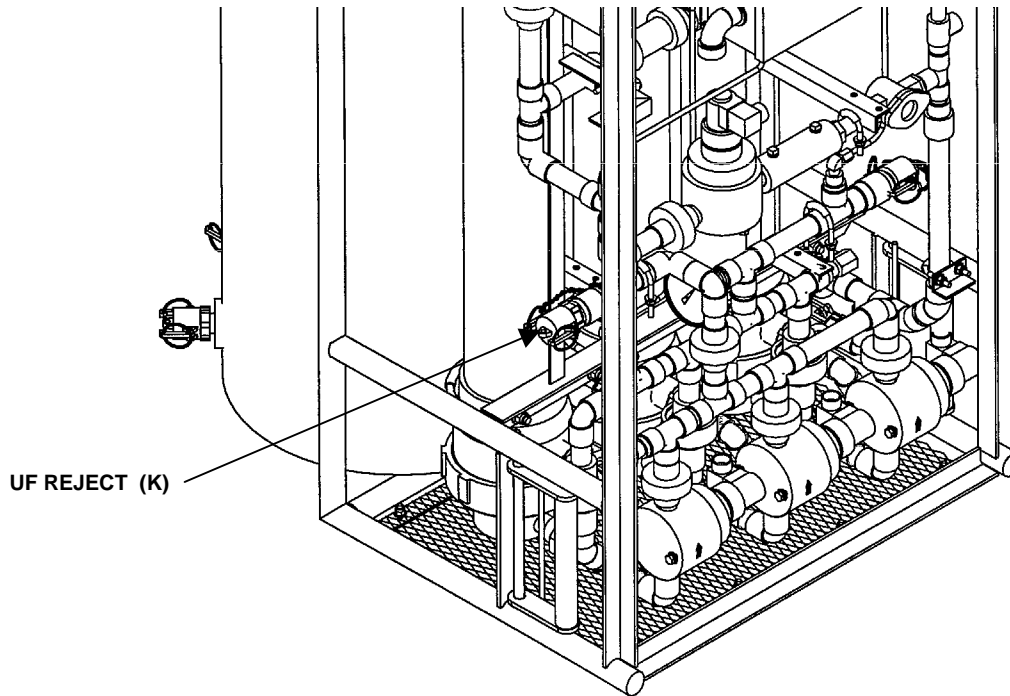

Figure 7. Raw Water Reject Outlet Connection.
11. Connect one end of a reject hose (red) to the reject outlet on the UF assembly. See Figure 7.